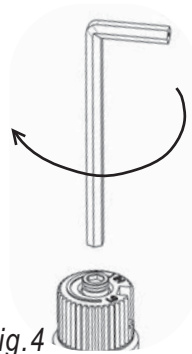

Fig. 4
- 12) Using the Allen wrench as shown in Fig.4, rotate the screw clockwise until snug, do not overtighten.